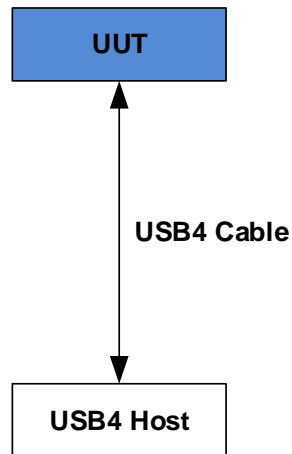

Figure 3-6: Host to Host Communications
1. Connect a USB4 Host to the UUT as shown in Figure 3-6.